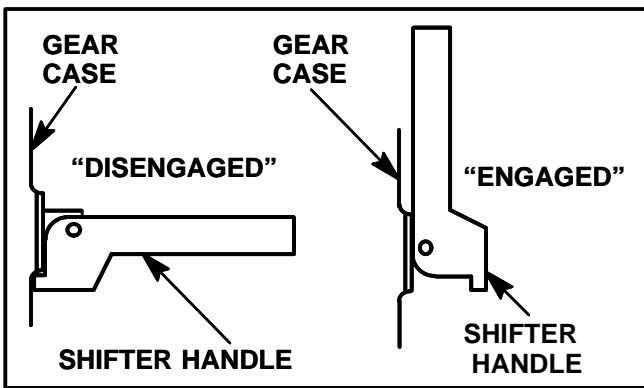

FIGURE 5
- Place blade shifter handle in “disengaged” position (handle will point straight out from unit). Refer to Figure 5.